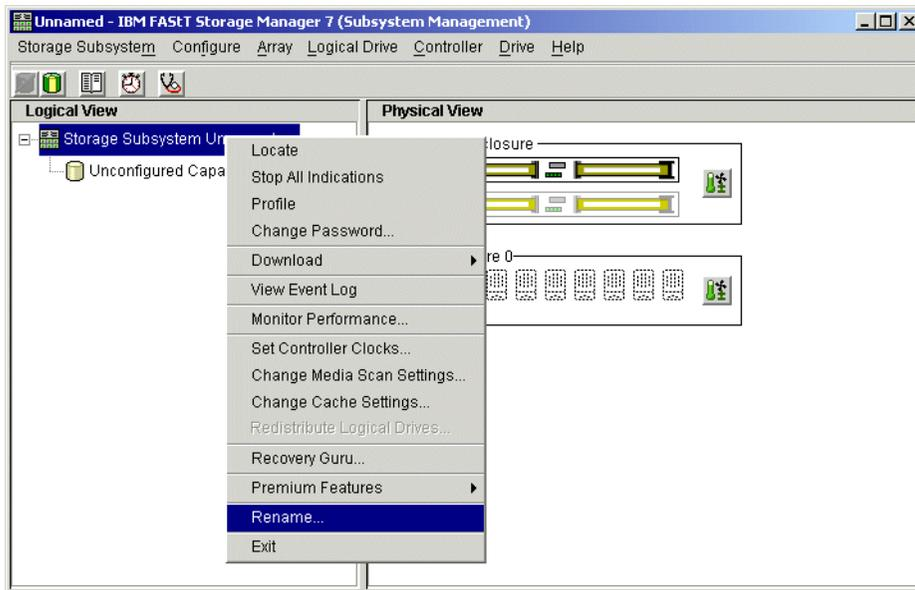

Figure 5-10 Storage Subsystem context menu
1. Within the Subsystem Management window, right-click **Storage Subsystem Unnamed**, and select **Rename...** (see Figure 5-10):